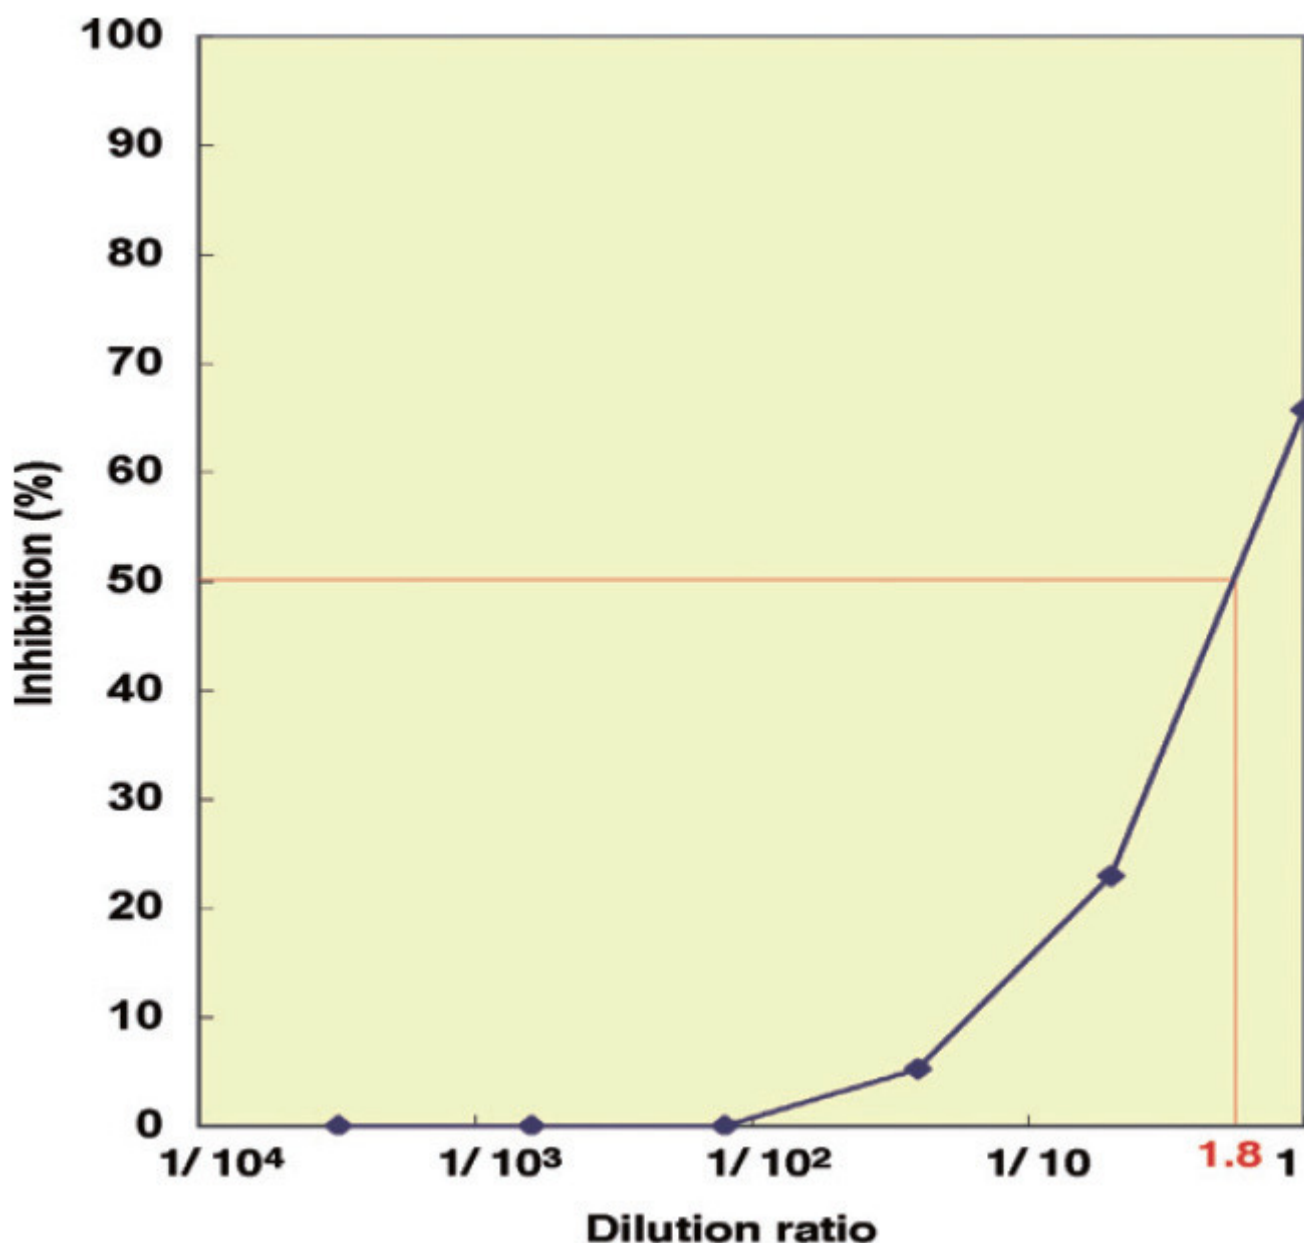

Fig.5 Inhibition curve of erythrocyte
1. Read the dilution ratio at 50% inhibition ( $\text{IC}_{50}$ ) from the inhibition curve (Fig.5). The dilution ratio at  $\text{IC}_{50}$  is 1/1.8.